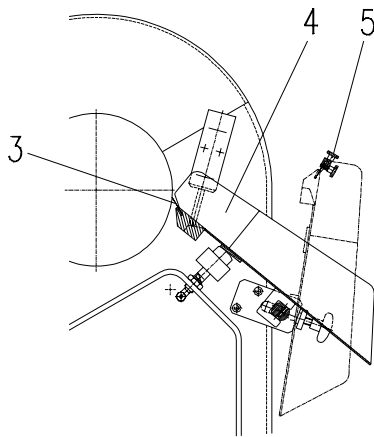

Fig. 6.3
- Remove the apron and scraper knife, see Fig. 6.3.